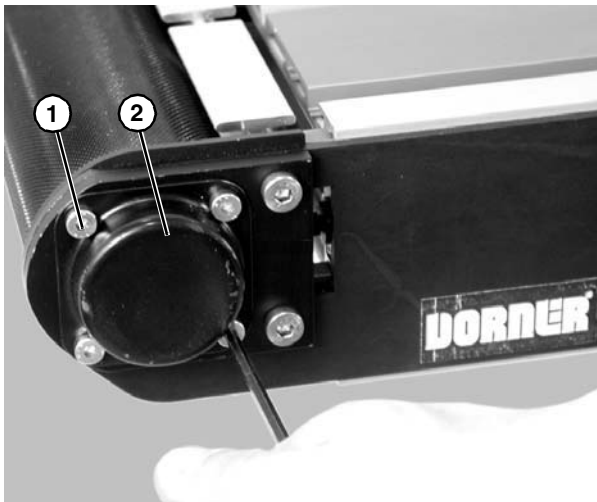

Figure 68
3. Remove four shaft cover screws (Figure 68, item 1). Remove the shaft cover (Figure 68, item 2).